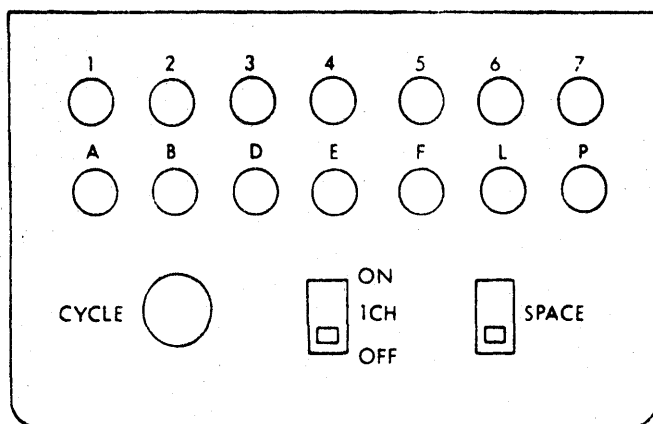

Figure 59. CE Aid Box
The 2740/2741 CE Aid box (Figure 59) aids the Customer Engineer in diagnosing terminal failures under dynamic conditions. The box also allows the CE to observe the contents of the '1B' register, mode triggers, and of the 'parity error or not S8' (P) trigger. A single cycle circuit allows the CE to cycle the terminal through operations. Provision is made for generating space characters so that reception can be simulated for checking terminal logic and the printer.